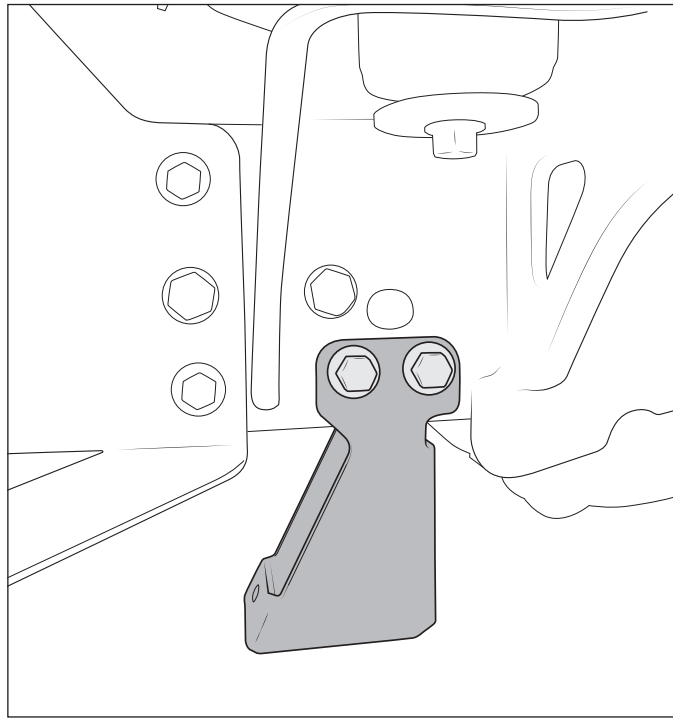

Figure 3
1. Loosely install the two AEV brackets using either the factory hardware saved in step one, or the AEV supplemental hardware kit PN: 110602112AA (fig. 3).